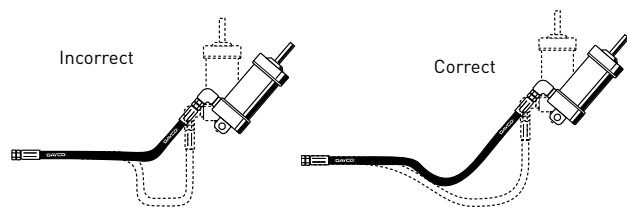

FIGURE 3 — MOTION ABSORPTION
5.23 Lengths – Unnecessarily long hose can increase pressure drop and affect system performance. When pressurized, hose that is too short may pull loose from its fittings, or stress the fitting connections, causing premature metallic or seal failures. When establishing hose length, refer to Figures 3, 4, and 5; and use the following practices: